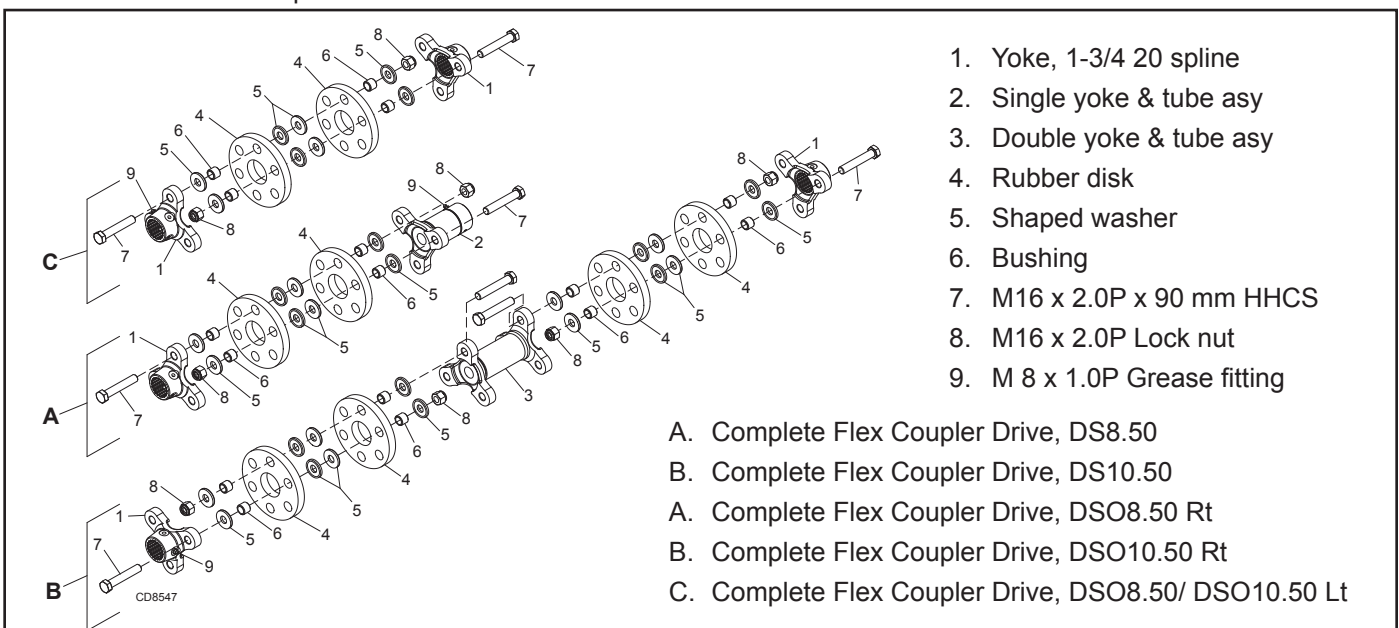

Figure 16. Side Drive Assembly
Reassemble shaft as shown in Figure 16. Use the special formed washer (5) and bushings (6) between the rubber disks (4) and under bolt head or nut near rubber disc. Tighten nuts (8) and bolts (7) to 85 lbs-ft. Tighten set screw.